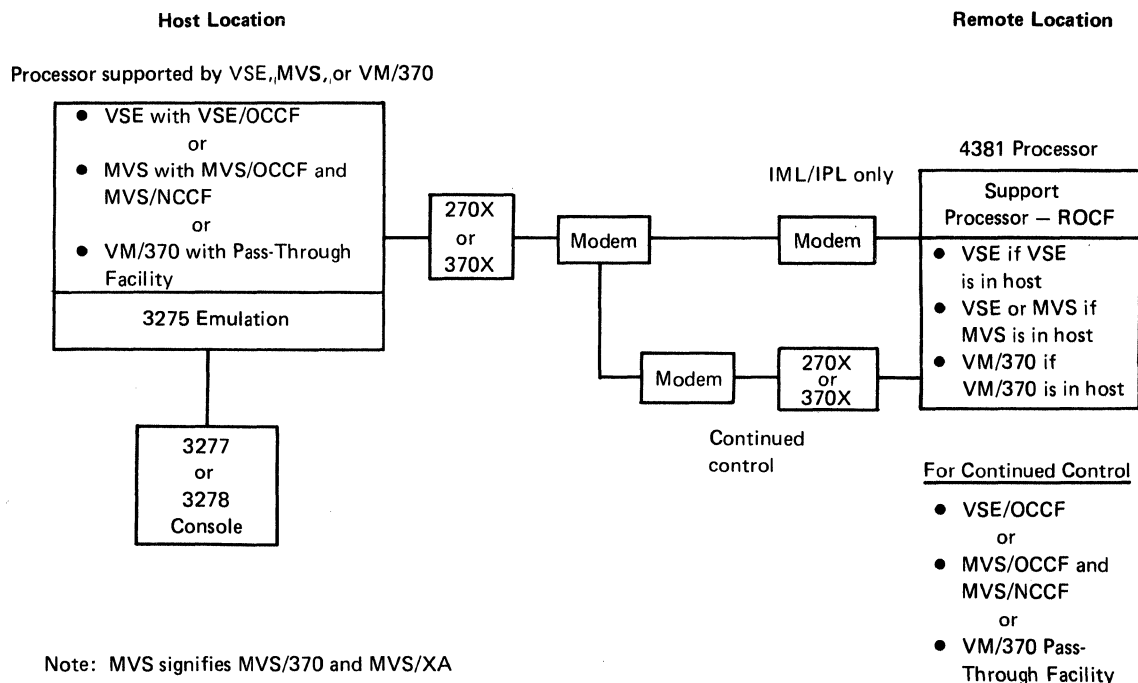

Figure 15. Dialup of a remote 4381 Processor via a host processor emulating a 3275 display
- Dial up and control a remote powered-on 4381 Processor from a 327X display connected to a host processor that is emulating a 3275 display, as shown in Figure 15 on page 92. The 327X display can be used to perform the same manual functions as can a stand-alone 3275 at the host location discussed above. Once the 4381 Processor is operating, the 327X can be disconnected from the ROCF link and a standard communication network can be established if continued control of the jobs in the remote 4381 Processor is required. The host processor used to dial up and control the jobs in the remote 4381 Processor must be running under the control of MVS/370, MVS/XA, or VM/370.